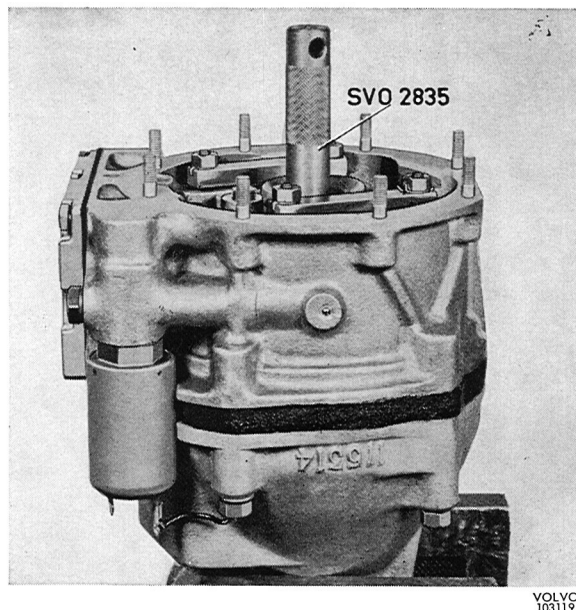

Fig. 4-66. Front casing assembly
5. Install the brake ring on the front casing. Place the front casing on the rear one. Install washers and nuts, see Fig. 4-66.